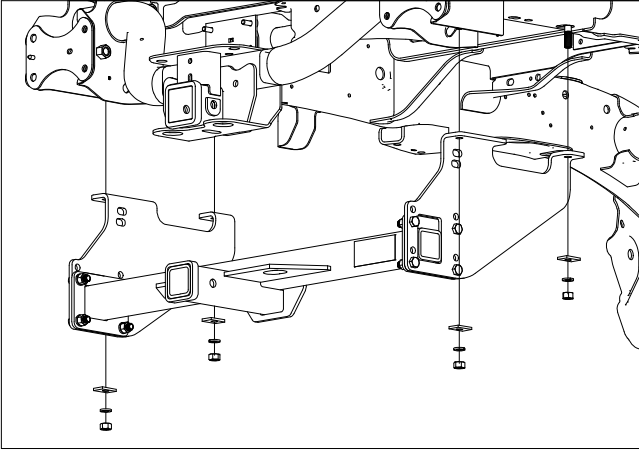

Figure C1: View looking at passenger side of frame looking towards the cab. (Bumper and bed not shown)
1. **Position the hitch.** Place the hitch under the frame and lift until the holes in the ears of the side plates are over the bolts installed in the frame. Secure these connections with 3/16" X 1" X 1-1/2" spacers, lock washers, and finish nuts as shown in Figure C1. Hand tighten the hardware at this time.